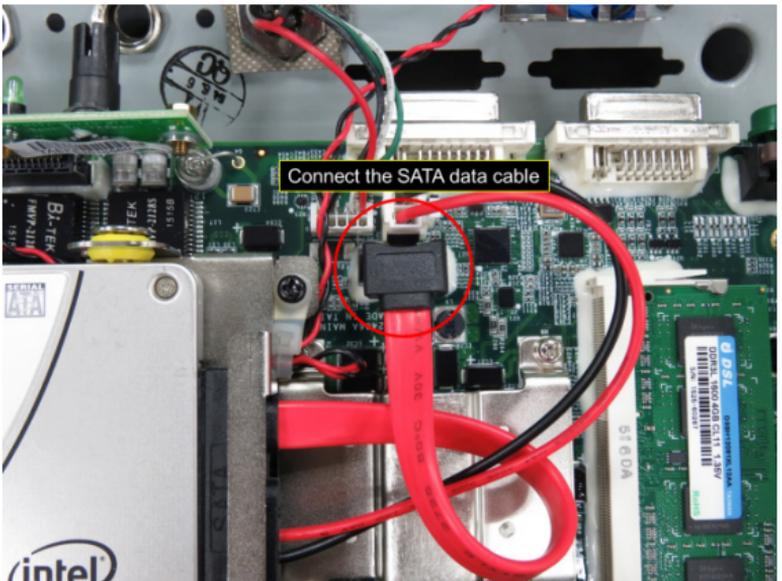

Figure 31
4.3.6 Connect the free end of the SATA data cable to main board as shown in Figure 31.